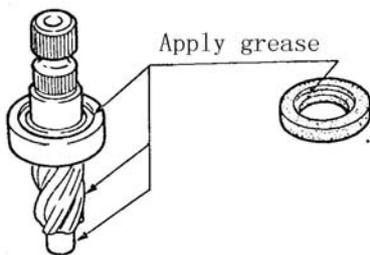
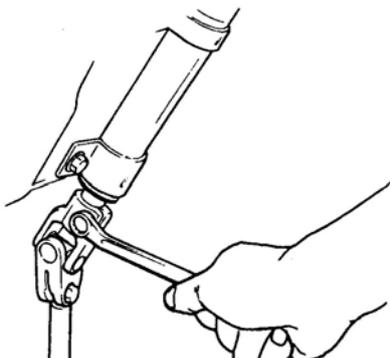

FIG.15-8
FIG.15-10
- (4) After depressing, check needle bearing for right, firm and reliable installation
- (5) Apply grease to all the inner surface of bearing.
- (6) Apply grease to all the inner surface and outer edge of rack.
- (7) Put rack into rack case.
- (8) Apply grease around the teeth of pinion, needle bearing and case oil seal lip.(Refer to FIG.15-10)
- (9) Install pinion assembly.
- (10) Depress oil seal into pinion bearing plug and depress bearing with plug, tightening torque:80~110N • m.
- (11) Apply grease to sliding portion of rack supporting seat , (Refer to FIG.15-8), then install all the parts.
- (12) After tightening the plug to the maximum, loosen it 90° and retighten adjusting plug to specified torque.
- (1) Install joint cover on lower shaft.
- (2) After aligning plain portion of lower shaft spine with joint bolt hole, insert lower shaft into joint.
- (3) Install column upper and lower bracket, and tighten column mounting bolt to specified torque. Tighten lower bracket mounting bolt firstly and tighten to specified torque then tighten upper bracket mounting bolt.
- (4) Install lower shaft and upper shaft joint mounting bolt and tighten to specified torque. (Refer to FIG.15-10, TABLE15-5)